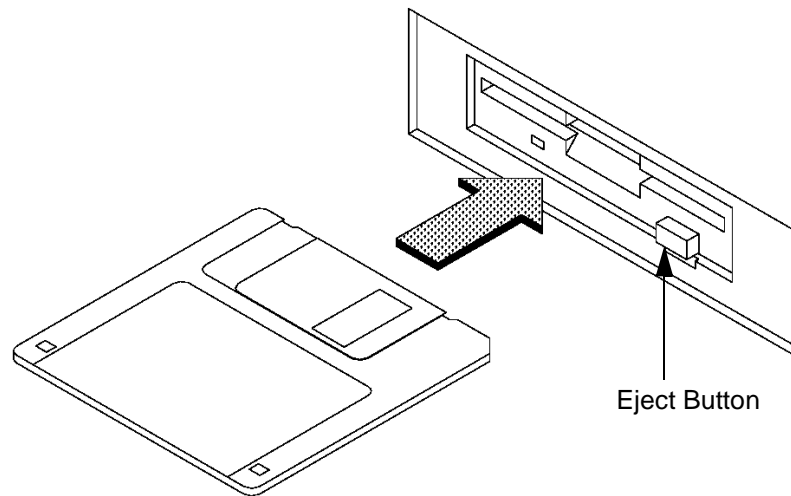

Figure 7-10
- 1 Insert the diskette into the drive, as shown in Figure 7-10.
- 3 To remove the diskette, push the eject button (Figure 7-10), then take out the diskette.